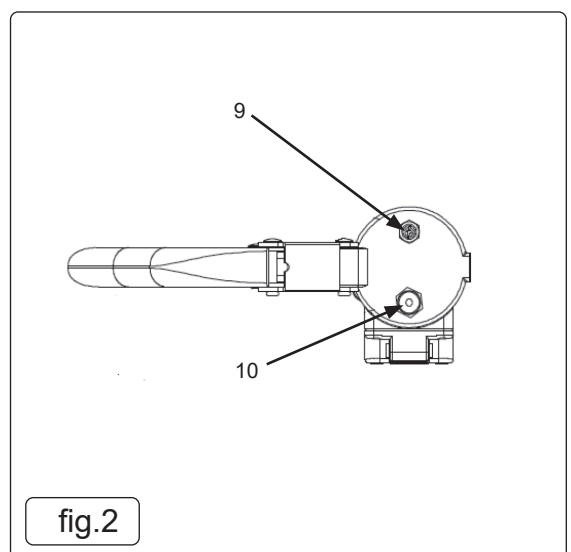

fig.2
4.2.4. Depress the air vent valve (fig.2).
4.3.4. Mount grease gun head back onto the barrel, depress the air vent valve (fig.2).
4.4.1. Connect delivery mechanism from dispenser to the gun head filler plug (fig.2).